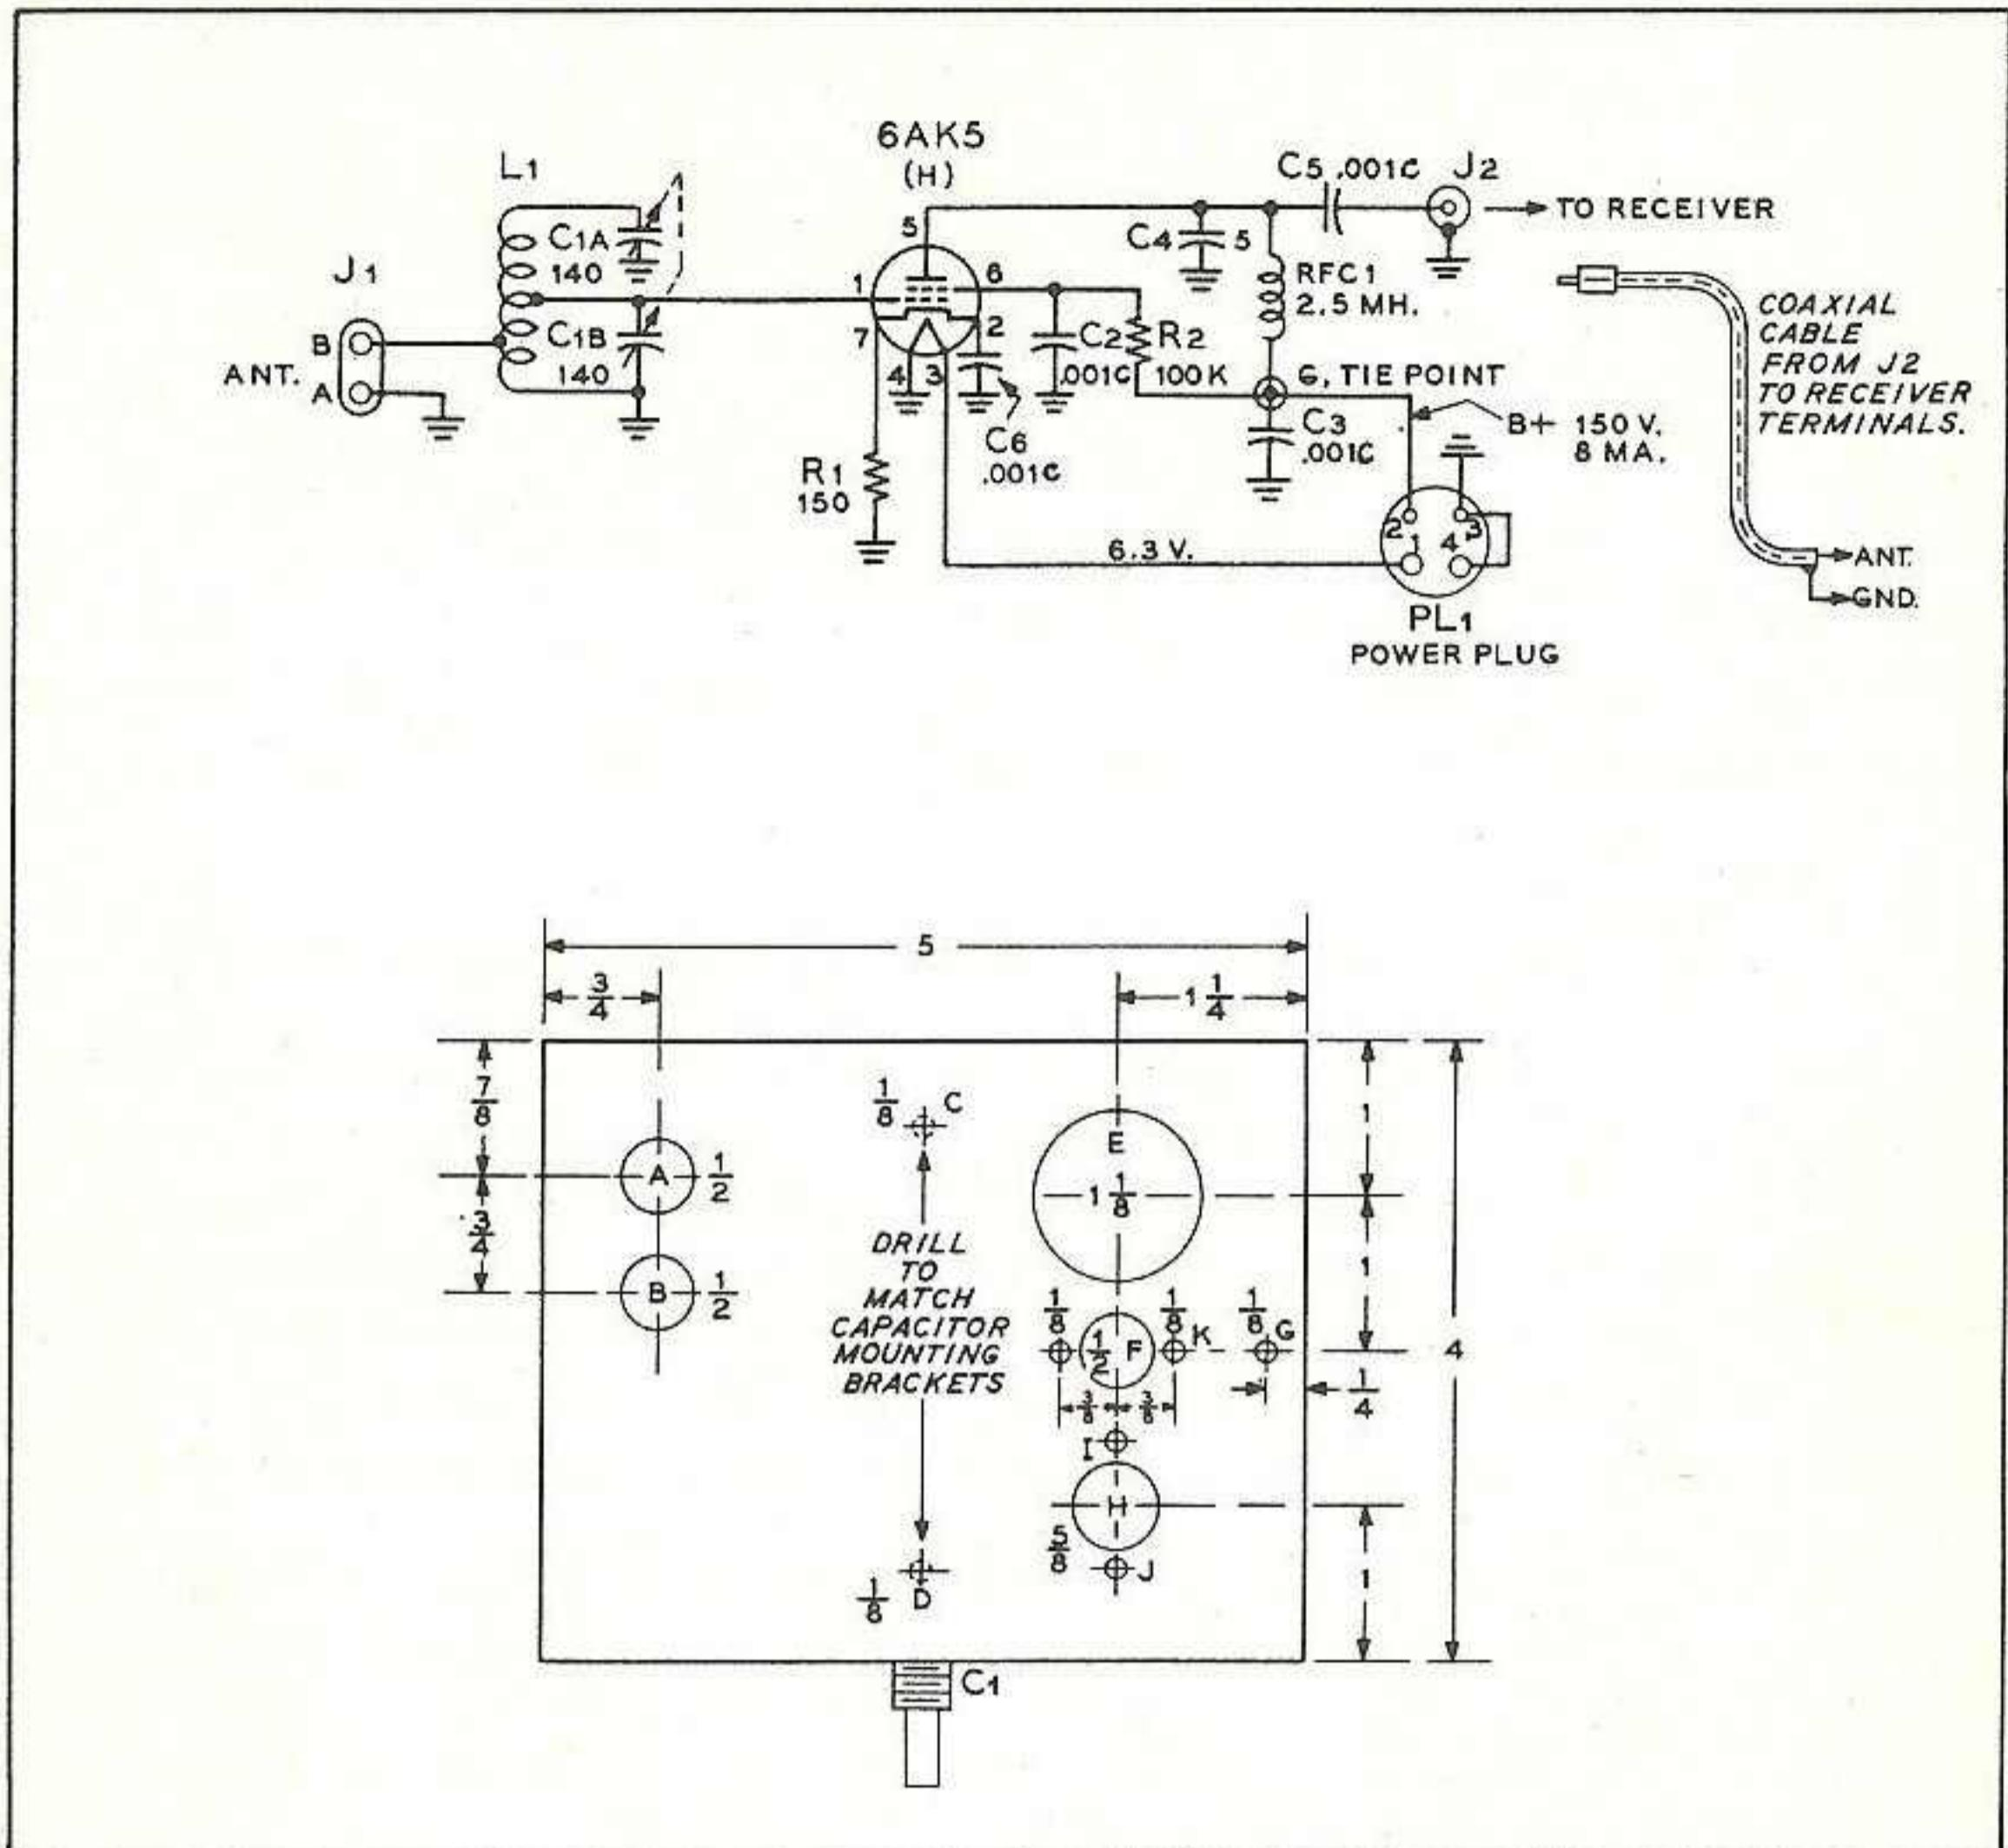

Fig. 2 The simplicity of the preselector can be seen in the above schematic.
A simple diode detector is shown in Figure 2. Current flows through the diode only when the plate is positive with respect to the cathode. At each positive cycle of the radio signal the diode will conduct and charge the capacitor C2. The charge on this capacitor is continually being dissipated by the diode load resistor, R1, and being replenished by the action of the diode. A state of equilibrium is established wherein the capacitor voltage varies in accord with the amplitude of the carrier wave. This voltage is a duplicate of the envelope of the carrier, and may be passed through ear-
Fig. 2 The diode detector is a simple means of recovering the intelligence conveyed in the envelope of the carrier. The variations are rectified by the diode and charge capacitor C₂. Indicating device across this capacitor will show variations in carrier envelope. This circuit is also called an "envelope detector."
The signal detector (often referred to as the *second detector*) in most communication receivers is our old friend, the diode. The circuit shown is similar to that of Figure 2, with the load resistor coupled to an extra stage of audio amplification. A volume control is also added to allow regulation of the level of the audio signal.
- () Lay out the chassis holes (Figure 2) to be drilled on the paper wrapper of the chassis. Drill the holes and remove the burrs.
- () Mount the output connector (J2) in F. Under one of the 6-32 nuts place a ground lug, K, as indicated in Figure 2.